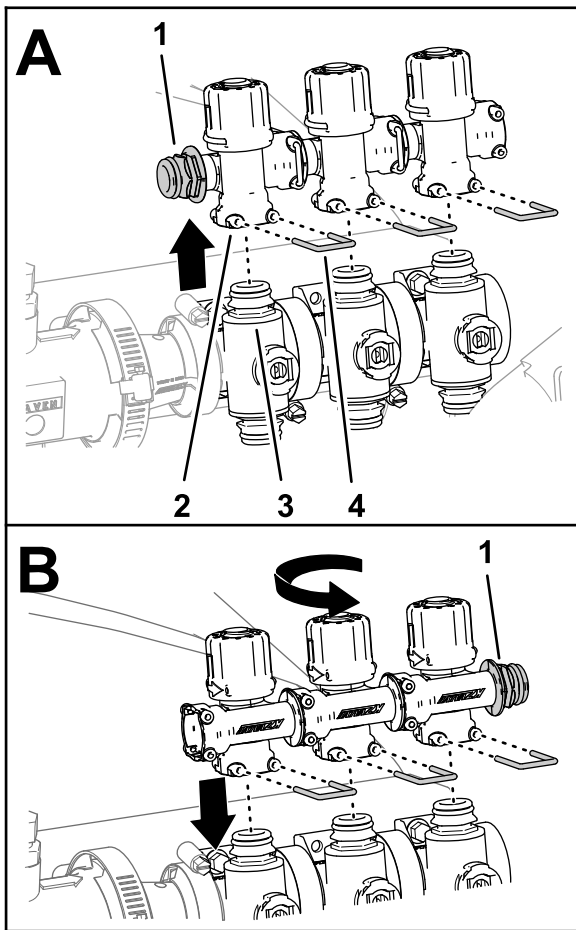

Figure 66
4. Remove the 3 retainers that secure the 3 bypass valves to the left, center, and right section valves (Figure 66).
5. Lift the bypass valves from the section valves (Figure 66).
6. Rotate the bypass valves 180° and assemble them onto the quick disconnect fittings of the section valves (Figure 66).
7. Secure the 3 bypass valves to the section valves with the 3 retainers that you removed in step 4 (Figure 66).